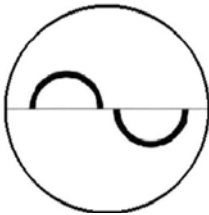

Figure 4: Semicircular images at the center of the field of vision.
3. After contact is established, observe the cornea through the microscope. With the measurement drum set to position 1, the two semicircular fluorescein rings (which will vary in size according to ocular pressure) will pulse rhythmically if the tonometer is in the correct position for measurement. Use the guide lever to make any corrections needed until the applanated surface is observed as two semicircular surfaces of equal area at the center of the field of vision. (Figure 4).